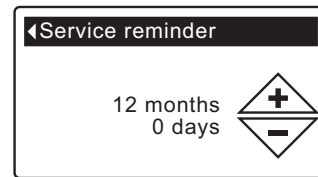

FIG. 88
7. Press the SELECT (O) button to display the Service reminder screen (See Figure 88).